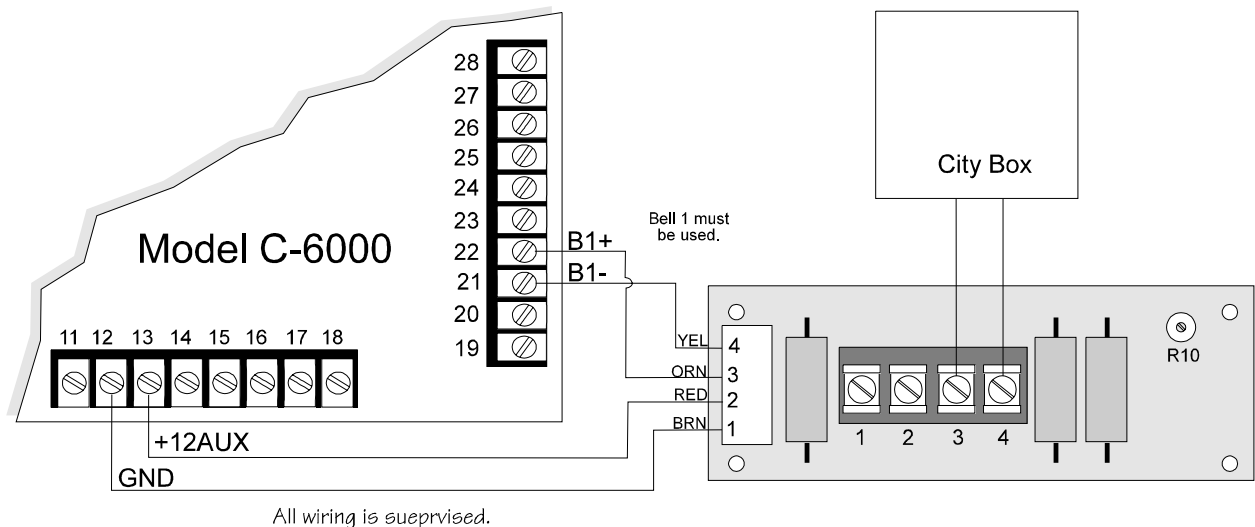

Figure 3-23. Wiring the 5220 for Connection to a City Box
2. Wire the 5220 to the C-6000 using the four-wire pigtail provided as shown in Figure 3-23. Figure 3-23 also shows how to wire the city box coils to the 5220.